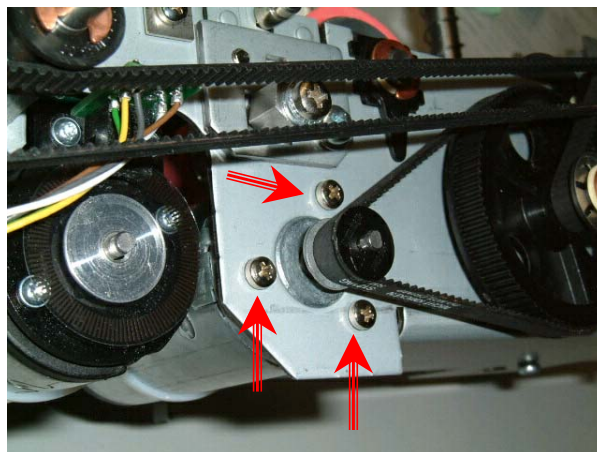

Fig. 36
- Remove the three screws holding the motor to the frame (Fig.36)